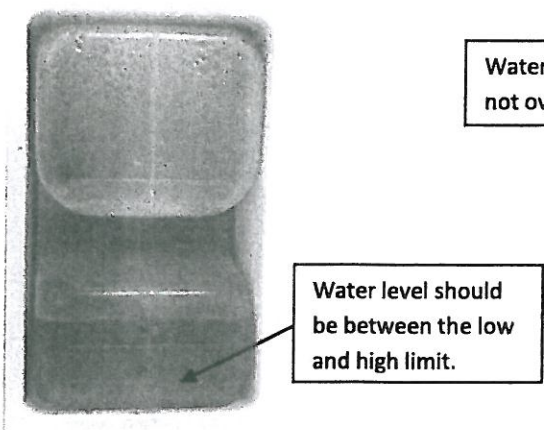

Figure 1. Container located at bottom right of autoclave.
2. Check that water level in the container, located at the lower right of the autoclave, is between the minimum and maximum level (Figure 1).